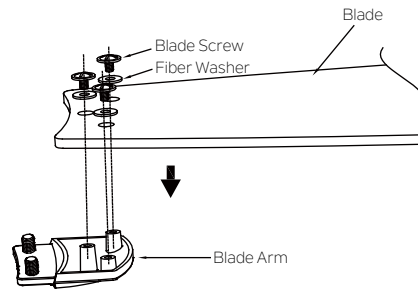

Fig. 19
**Step 1.** Position the blade over the blade arm with threaded posts showing. Make sure the bottom edge of the blade is fully seated against the blade arm. With a Phillips screwdriver, start a blade screw and fiber washer into the blade arm (do not tighten) and repeat for the 2 remaining blade screws and fiber washers. Tighten each screw securely starting with the center screw. Make sure the blade is straight. Repeat steps for the remaining blades. (Fig. 19)